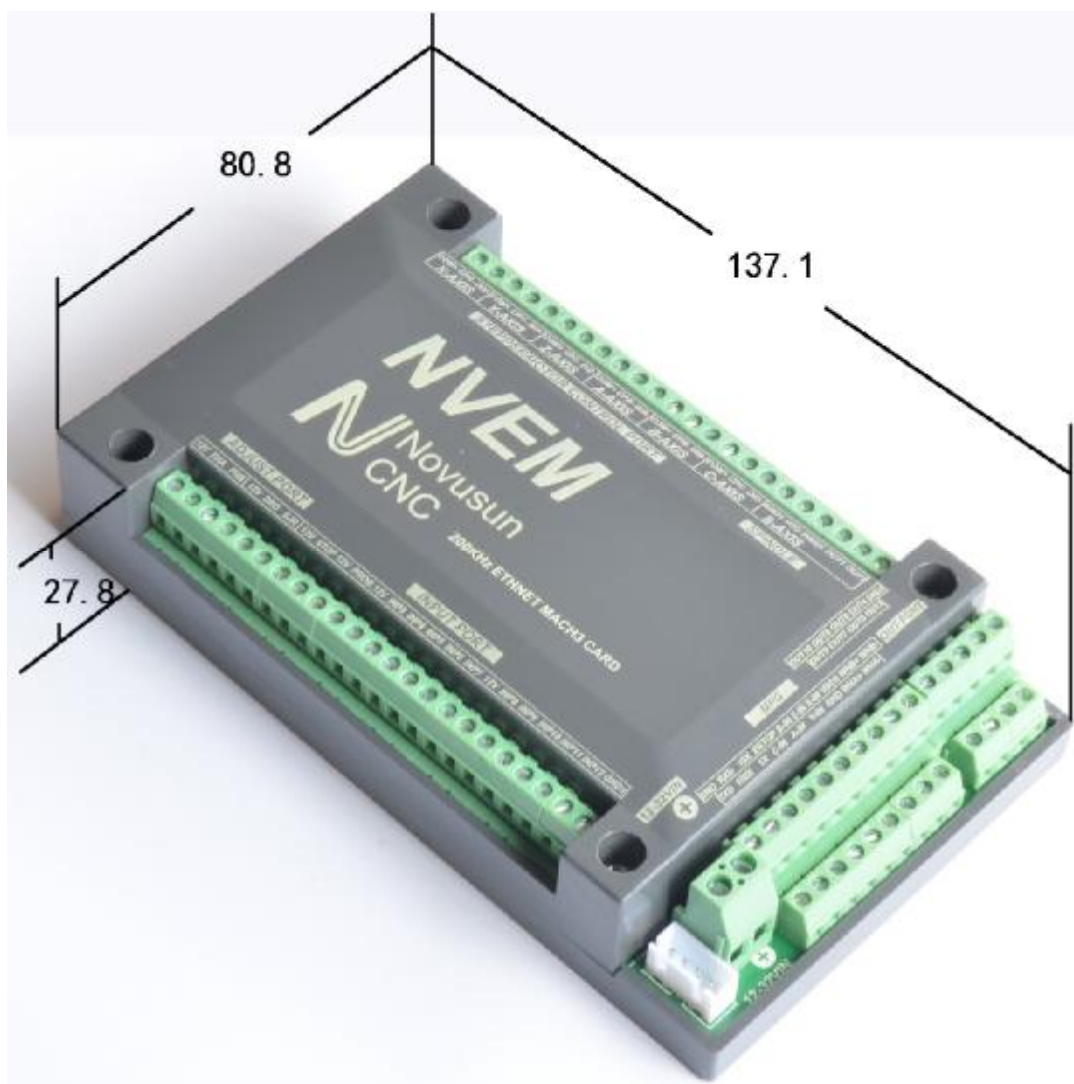
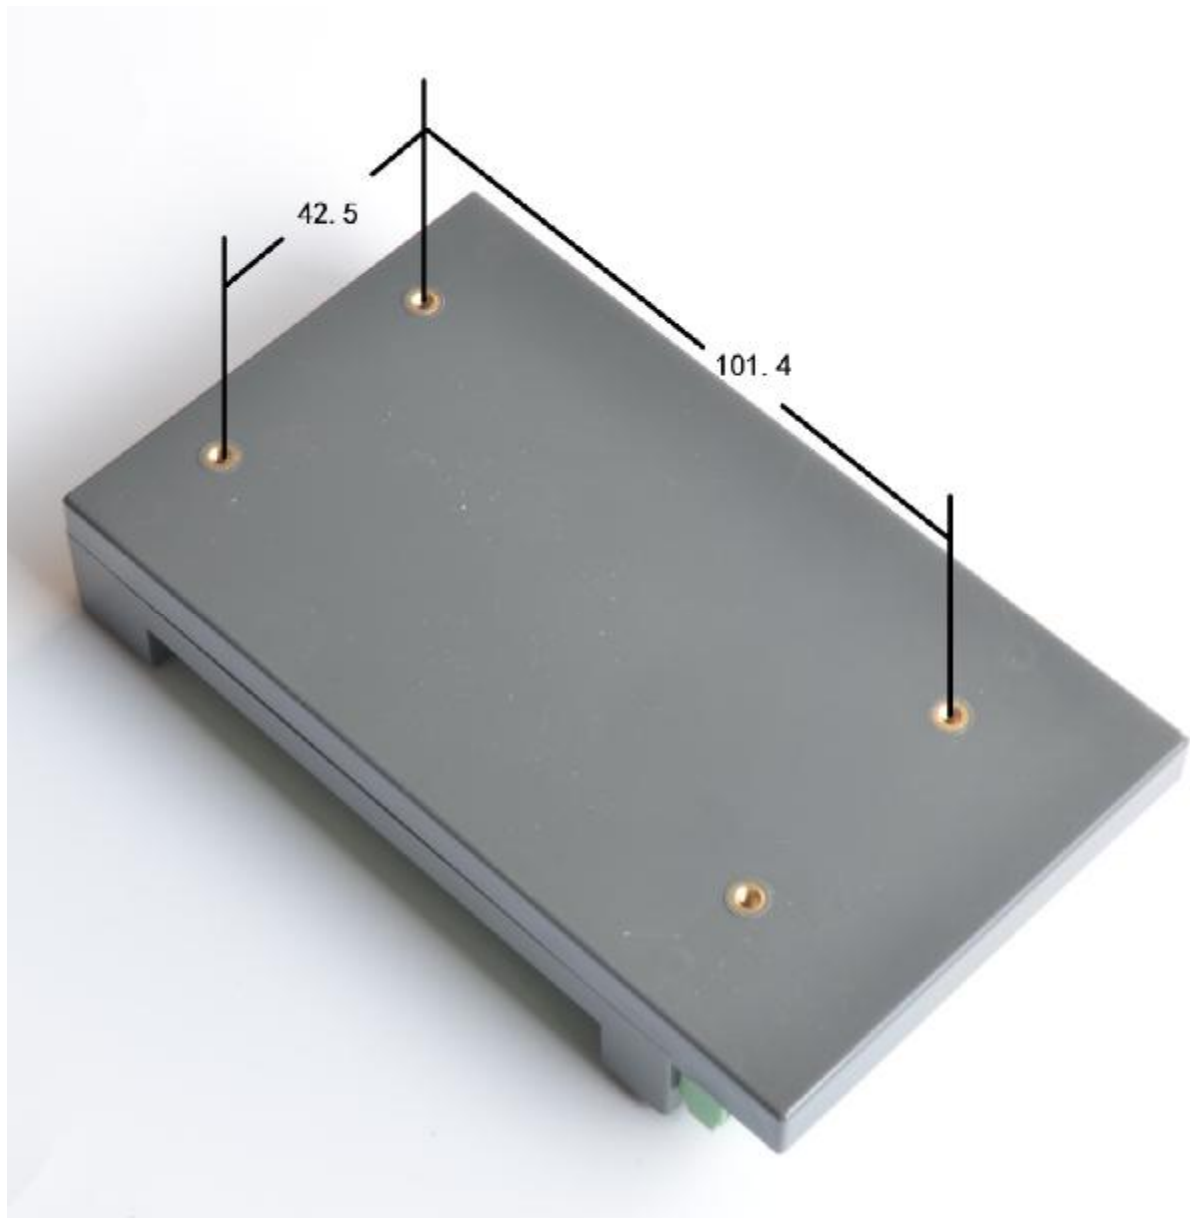

Figure 1-1. NVEMV1.1 front appearance and size
Figure 1-2. The other side of NVEMV1.1 and installation dimensions
■ NVEMv1.1 motion controller is with the sealed shell structure,there are 4pcs setting holes at the bottom.We can fix 4pcs 4mm diameter holes at the cabinet,and install the controller into the cabinet.The controller appearance as the Figure 1-1 and Figure 1-2 show: